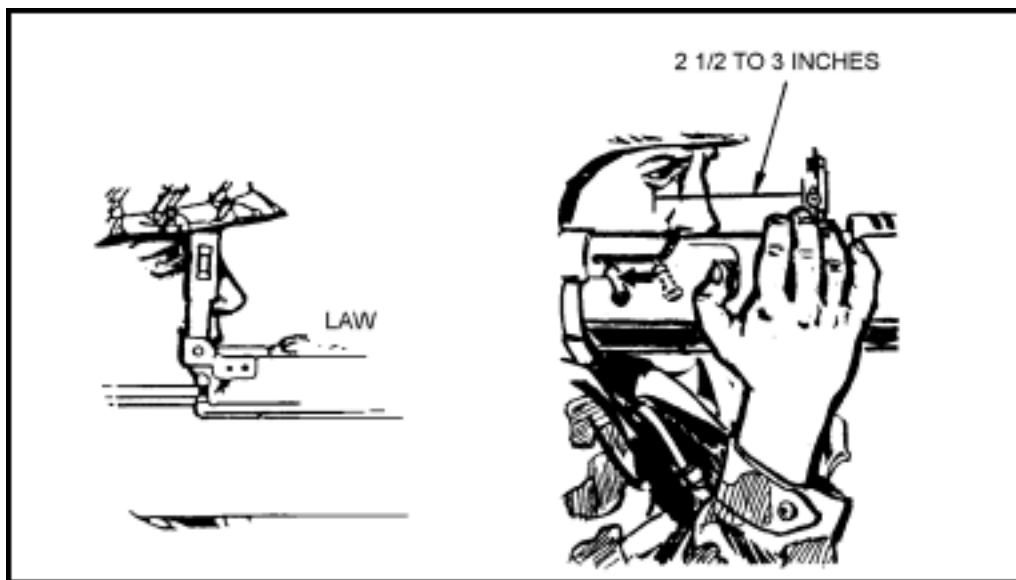

Figure 4-2. Eye placement.
a. **Eye Placement.** Before sighting the weapon, estimate the range (Chapter 6 discusses range estimation). For the M72-series LAW, place your firing eye as close to the rear sight as is comfortable. However, for the M136 AT4, place your firing eye between 2 1/2 to 3 inches (no nearer than 2 1/2 inches) from the rear sight. This distance is necessary to prevent possible injury from the weapon's recoil and for correct sight alignment with the AT4 (Figure 4-2).